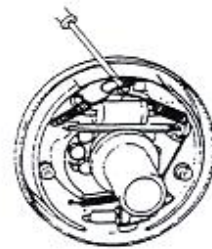

Figure 2-12
- (2) Remove the return spring on the shoe. See figure 2-12